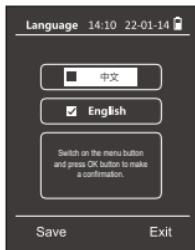

fig.23
e. Language: Set Chinese or English as displayed language (fig.23).